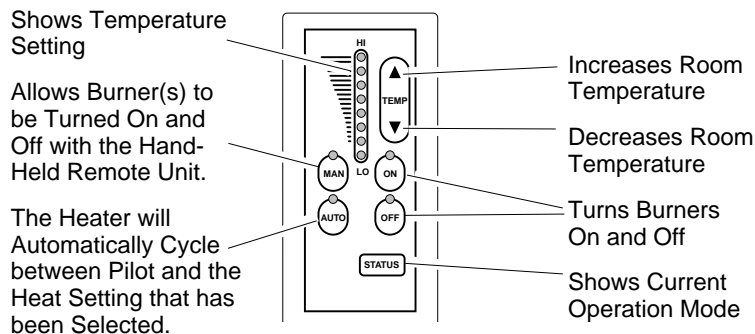

Figure 55 - Hand-Held Thermostat Remote Control Unit Selections (GHRCT)
2. Select the MAN (manual) or AUTO button on the hand-held remote control unit (see Figure 55).